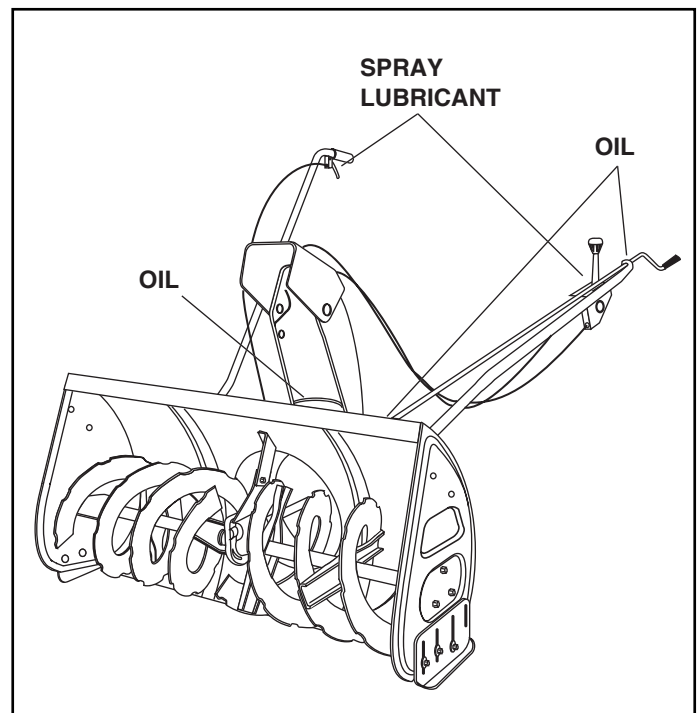

FIGURE 26
- Apply a good grade of spray lubricant to the trigger assembly on the lift handle and the chute tilt control assembly and cables on the crank support tube. See figure 26.
- Apply a small amount of oil between the inside of the discharge chute and the top of the discharge opening on the auger housing as needed to maintain easy rotation of the discharge chute. See figure 26.